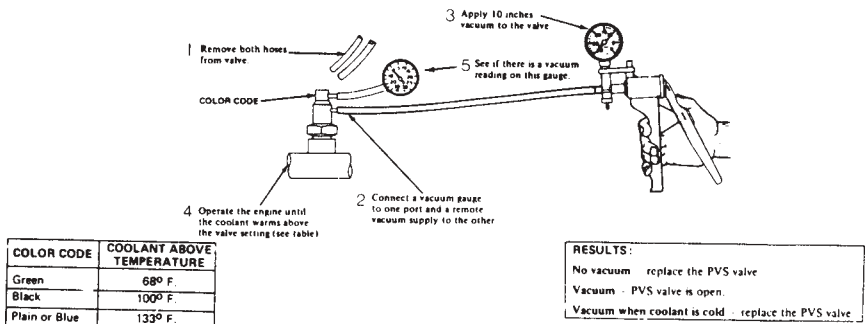

FIGURE 13: Testing The Two-Port PVS
- 1) Apply 10" Hg of vacuum to the bottom port of the valve with your vacuum pump and measure the results with a second vacuum gauge as shown in the accompanying illustration (FIGURE 13).